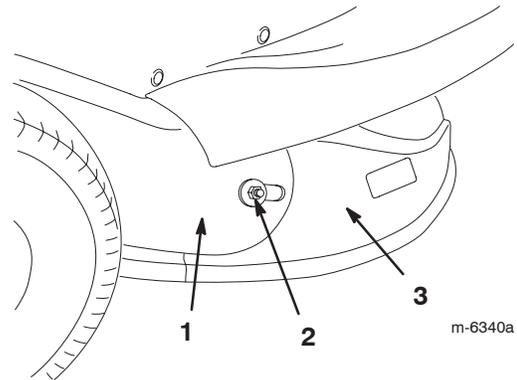

Figure 14
8. Remove the nut and outer washer that secure the discharge chute to the discharge tube (Fig. 14).
- Install the nut and outer washer that secure the discharge chute to the discharge tube (Fig. 14).